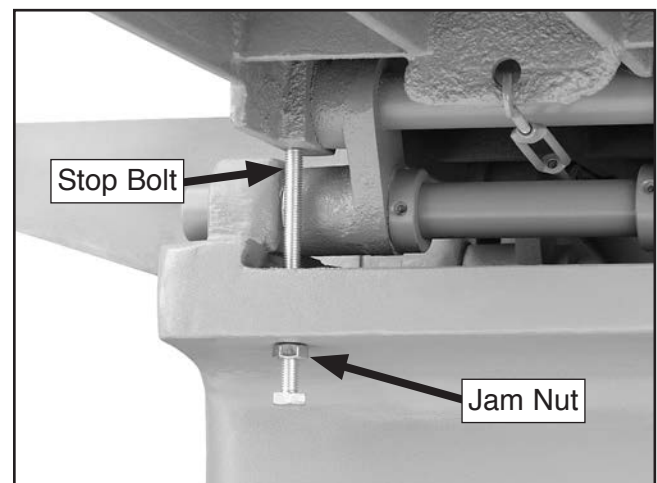

Figure 73. Outfeed table stop bolt (viewed from underneath the table).
5. Use the same process you performed in **Step 9** on **Page 46** to raise or lower the left or right end of the infeed table to eliminate the gaps. Adjust the adjustment bolts equally on each side for the targeted end of the table, one after the other, in very small increments (see **Figure 73**).